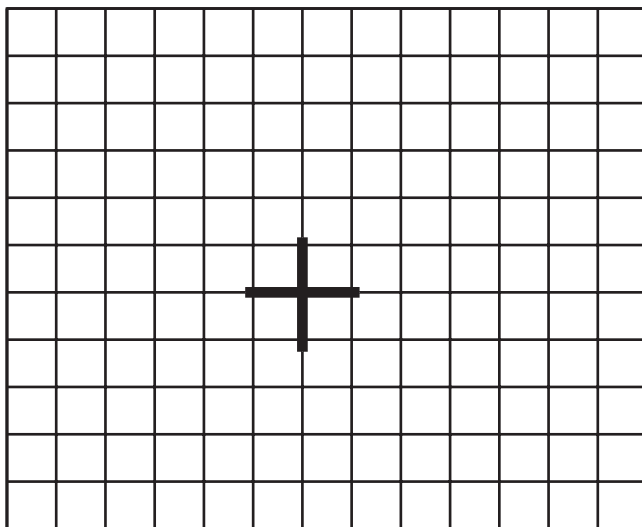

Figure 4.16 Positioning of crosshair on registration chart for shooting the first exposure.
- Line up the registration test chart through the eyepiece so that the crosshairs of the ground glass are centered on the lines of the chart (see Figure 4.16).